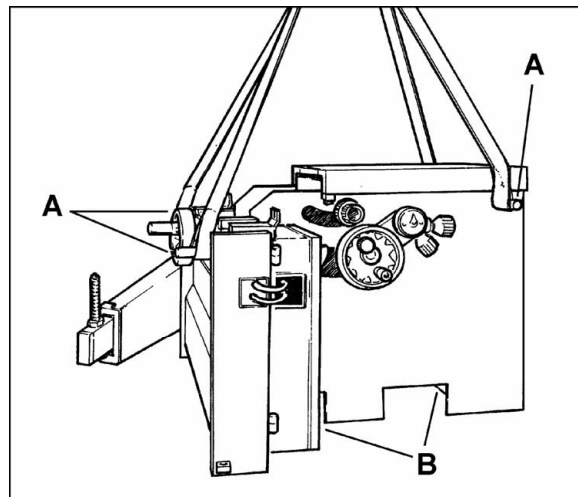

Figure 3
1. Place steel rods (A, Figure 3) through the three holes in the machine frame. The machine can then be lifted off the pallet with hoist or forklift, by using slings passed under the rods. When the machine is sitting on the ground, it can be lifted by removing the bottom cover plate and sliding forks under the two openings (B, Figure 3).